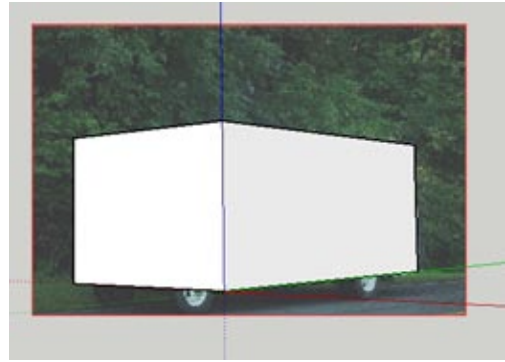

Figure 9-61
- Trace the side of the truck, and push the face back to the edge of the truck in the photo (Figure 9-61). The resulting box will be too large, but you'll adjust it later.